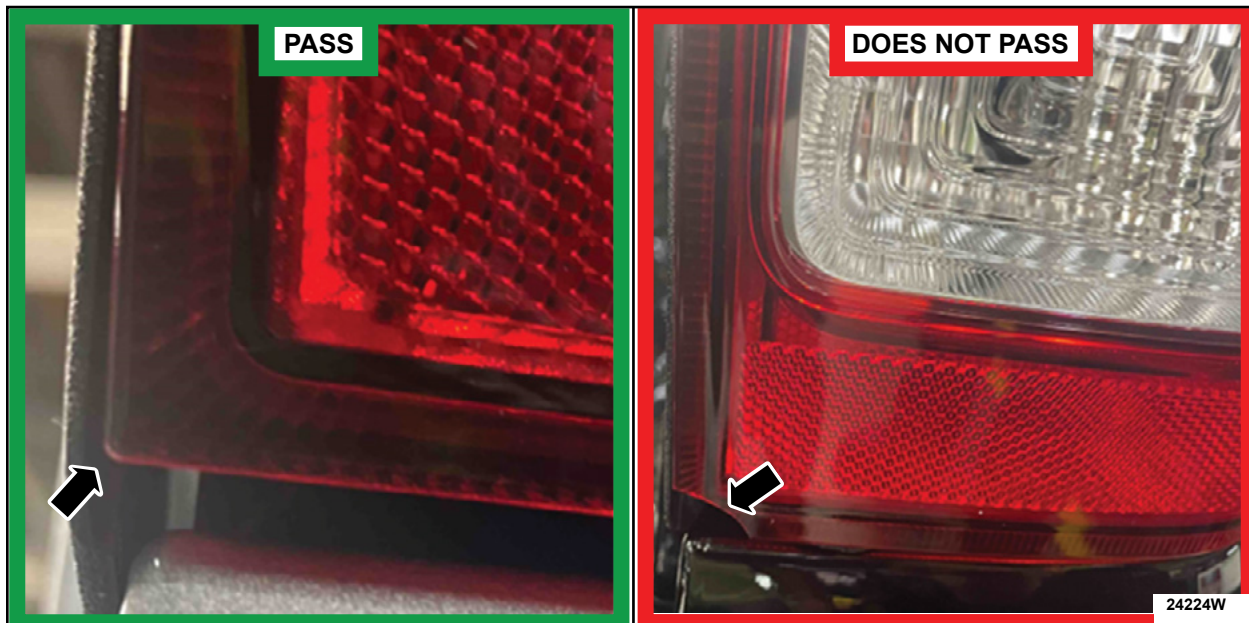

FIGURE 10
16. Inspect the corners of the tail lamps for chips. See Figure 10.